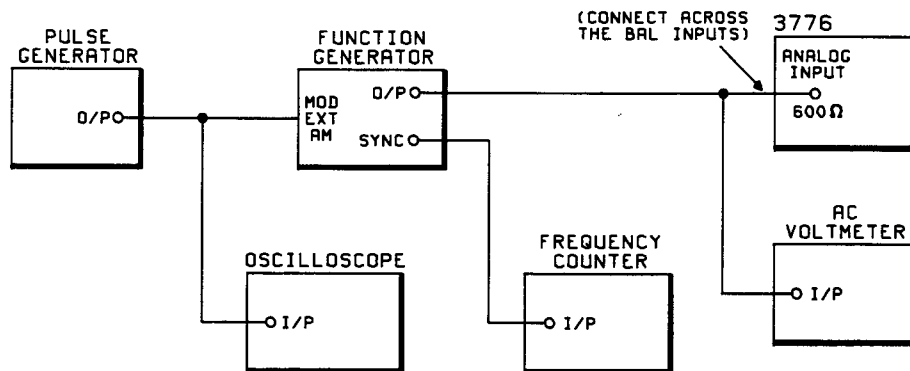

Figure 4-51 Dropouts/Interruptions Test Set-up
3. Connect the equipment as shown in Figure 4-51.